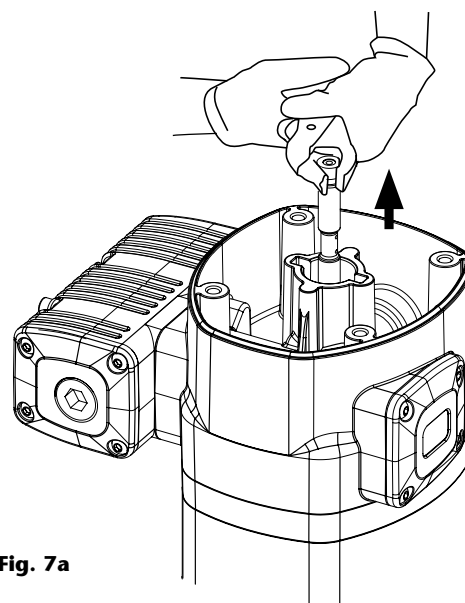

Fig. 7a
1. Unscrew the bolts (2) and remove the cap (3).
2. Unscrew the sensor sleeve (4).
3. With a manual clamp on the nut (5), pull the rod (40) outwards until its central recess appears (fig. 7a). Then, with another manual clamp, grab the rod (40) on said recess to prevent sealing surface to be damaged, and unscrew the nut (5) (fig. 7b).
4. Remove o-ring (6) and ring (7), and replace them with new ones later.
5. Unscrew the bolts (55). Pull the motor body (13) outwards to free it along with bridle (36).
6. Take away the gasket (9) and replace its seals (8) and (10).
7. Unscrew the bolts (37) and split the motor (13) from the bridle (36). Take away the washer (32) and replace the seal (8).
8. Take away the cylinder (50) while carefully holding the air piston (45). Replace the piston seal (44).
9. Reassemble in reverse order, applying thread locker in screws (37), nut (5) and sensor sleeve (4).